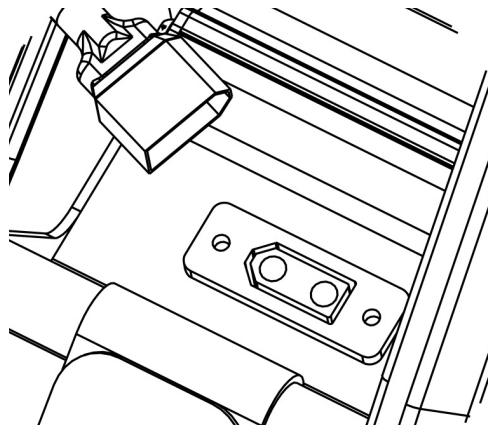

Fig. 9
1- Check that the connection between the battery and the motorcycle is correct (Fig. 9).
- 3- Disconnect the battery as indicated on the previous page (Figure 9) and replace the battery connector cover.